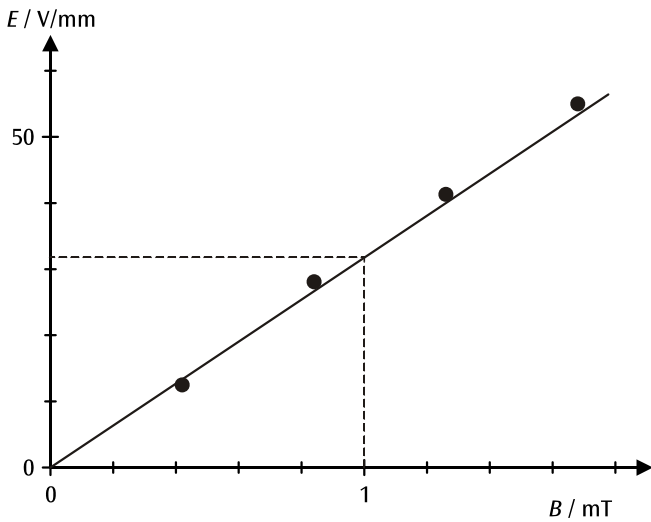

Fig. 6: Graph of results from Table 4
e) To confirm Equation (7) the values of  $B$  and  $E$ , are calculated from the results in Table 2, where the deflection by both fields cancels out to zero (see Table 4). The results are then plotted on a graph of  $E$  against  $B$  (see Fig. 6).